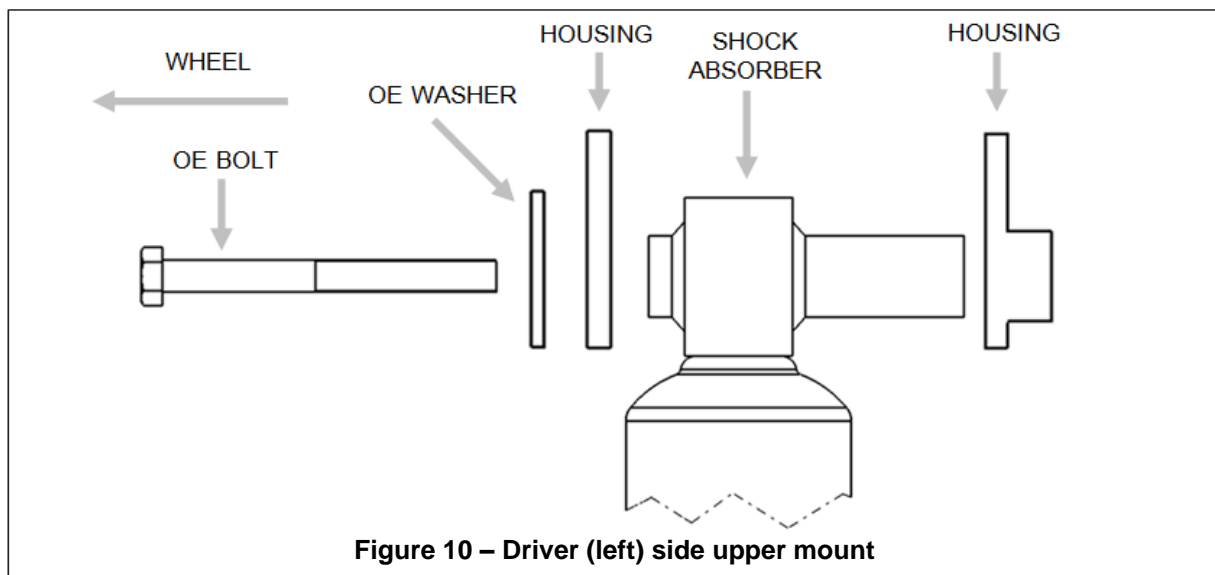

Figure 10 – Driver (left) side upper mount
- P. Install the driver's side shock in the original location with the top mount offset away from the vehicle as shown in Figure 10.